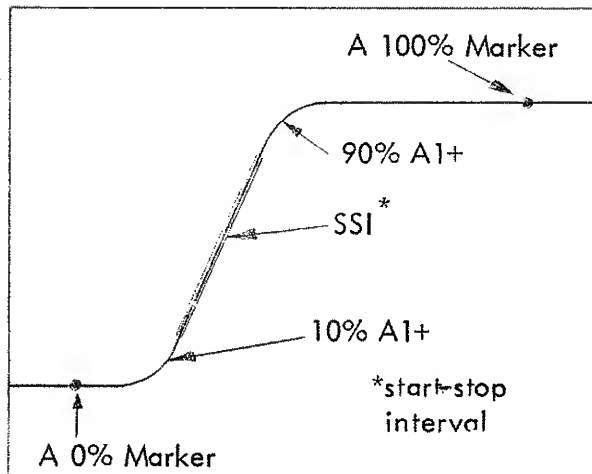

Figure 3-3 Rise Time Measurement
The rise time of a pulse on channel A can be measured as follows (see figure 3.3)
b. Program the Model 505 and set the pulse generator (especially pulse delay) to place the transition on screen as illustrated in figure 3.3.
e.g., AM15G85G for figure 3.3.